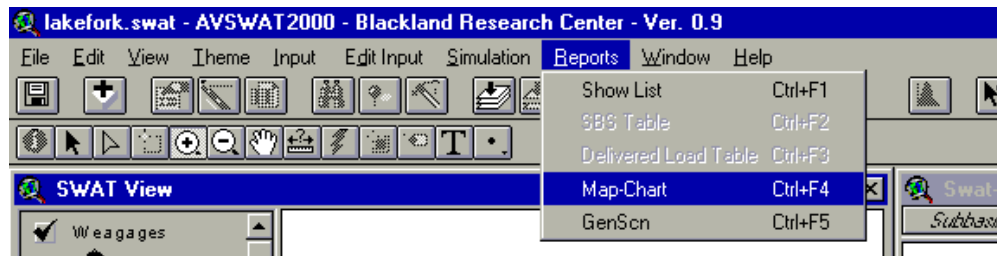

Figure 15.44
- To graph and map results, on the **Reports** menu click **Map-Chart** (Figure 15.44).